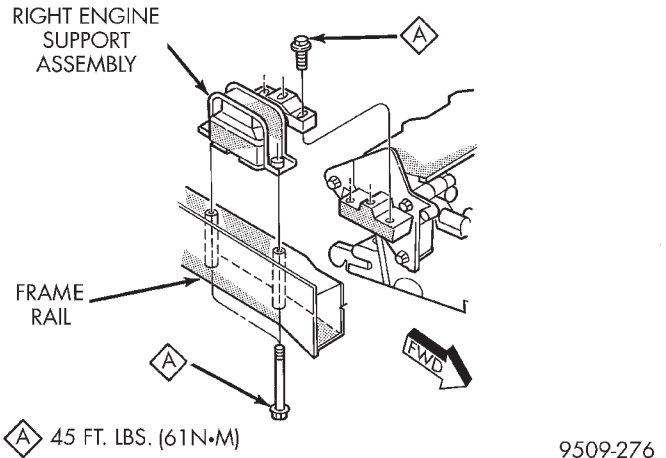

Fig. 19 Engine Mounting—Right Side
- (1) Raise vehicle on a hoist and remove inner splash shield. Remove the right engine support assembly vertical fasteners from frame rail (Fig. 19).
- (2) Lower vehicle. Remove the load on the engine motor mounts by carefully supporting the engine assembly with a floor jack.
- (3) Remove the three bolts attaching the engine support assembly to the engine bracket.
- (4) Move the air conditioning dryer aside.
- (5) Remove coolant recovery system tank. Refer to Group 7, Cooling System for procedure.
- (6) Remove right engine support.
- (7) Remove the three bolts attaching the engine support bracket to the cylinder block.
- (8) Reverse removal procedure for installation. Refer to (Fig. 19) for torque specifications.